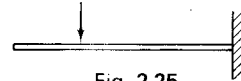

Fig. 2.25
10. Fig. 2.25 shows a beam with a force acting on it. Which edge of the beam is in tension?